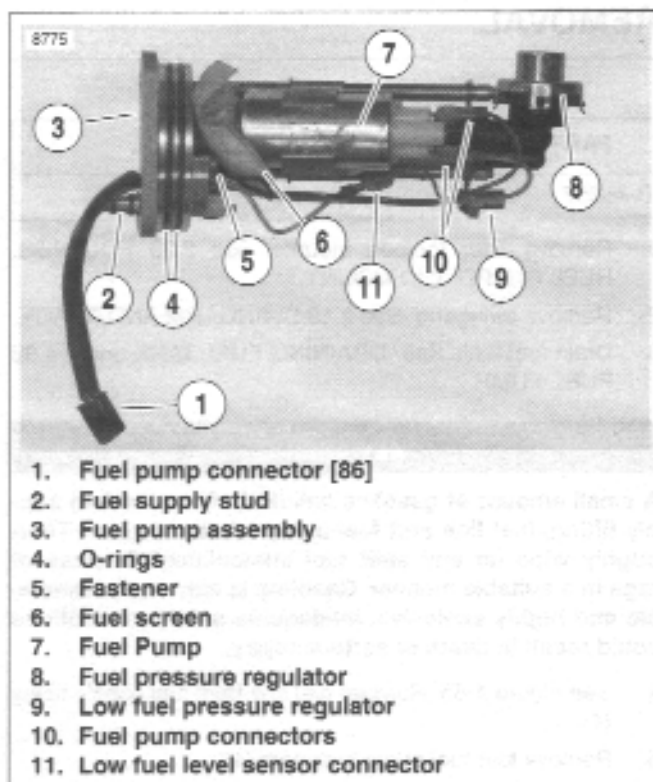
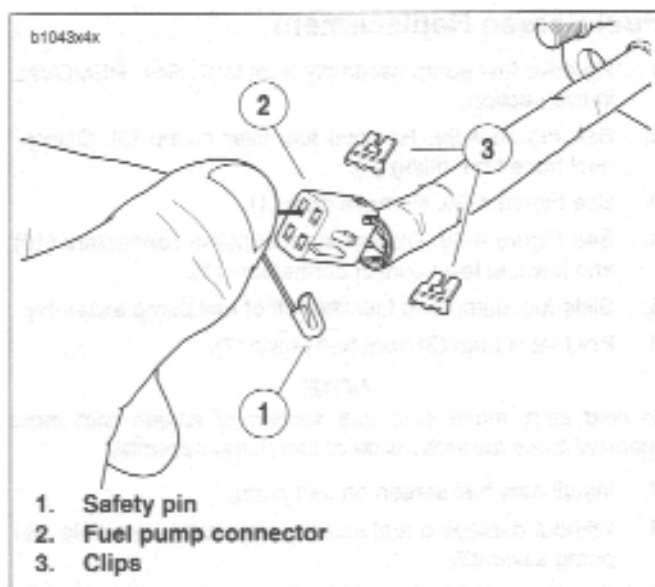

Figure 4-88. Fuel Pump Assembly (left side)
Figure 4-92. Fuel Pump Connector Disassembly
2. See Figure 4-88. Pry four tabs of clip holding fuel pressure regulator (8) in place. Detach regulator from regulator housing.
4. See Figure 4-88. Disconnect fuel pump connectors (10) and low fuel level sensor connector (11).
6. Pry fuel screen (6) from fuel pump (7).
11. See Figure 4-88. Connect low fuel level sensor wiring (11).
12. Connect fuel pump connectors (10). Connectors are two different sizes.
4. See Figure 4-88. Disconnect fuel pump connector (10) and low fuel level sensor connector (11).
- a. See Figure 4-92. Remove connector clips (3).
- b. Insert push pin/safety pin (1), into connector as shown.
8. See Figure 4-88. Remove screw (5).
11. See Figure 4-88. Insert **new** fastener (5), through ground wire terminal and secure to fuel pump assembly. Tighten to 18-22 **in-lbs** (2.0-2.5 Nm).
16. See Figure 4-88. Connect low fuel level sensor connector (11).
17. Connect fuel pump connectors (10). Connectors are two different sizes.
1. See Figure 4-88. Replace o-rings (4). Lubricate **new** o-rings with **clean** engine oil.
2. Install **new** o-rings on fuel supply stud (2). Larger o-ring is located in groove closer to fuel pump.